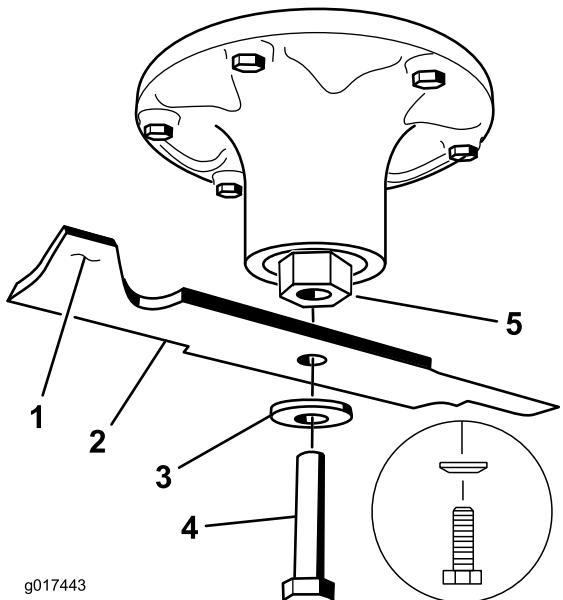

Figure 84
1. Install the blade onto the spindle shaft (Figure 84).
2. Install the spring disk and blade bolt (Figure 84).